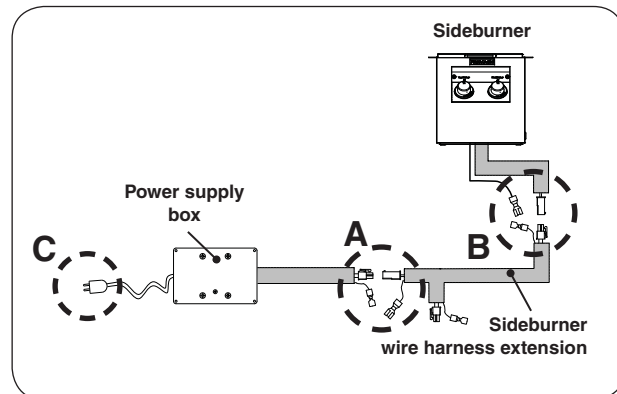

Fig. 21-1 Connect sideburner to power supply
3. Connect the power supply box connectors to the sideburner wire harness extension, as shown in Fig. 21-1, **A** (molex and ground wire connections).
4. Connect the sideburner wire harness extension to the sideburner, as shown in Fig. 21-1, **B** (molex and ground wire connections).
5. Connect the cord coming from the power supply box to a **120VAC (15 AMP minimum) GFCI GROUNDED 3-wire receptacle**. See Fig. 21-1, **C**, and 21-2. The GFCI receptacle must be a WEATHER-PROOF IN-USE COVERED RECEPTACLE.